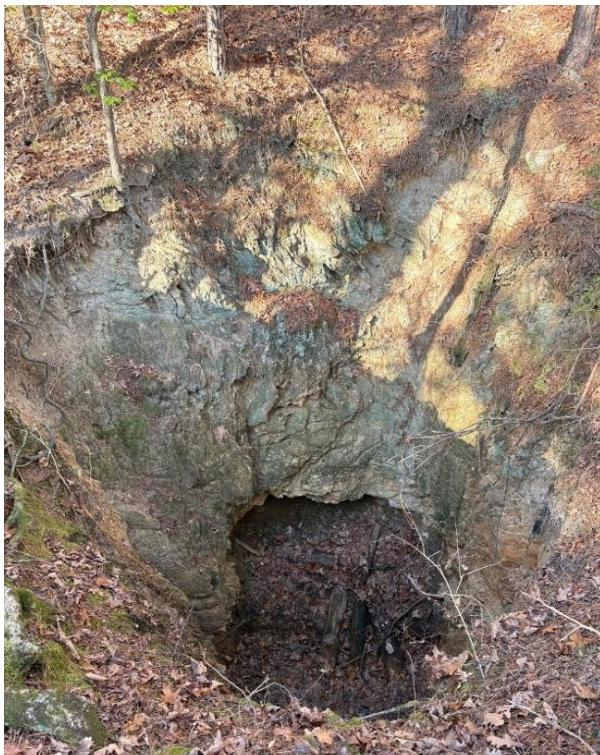

Figure 3 Previously undocumented mines within the Gilham Project area
- Several previously undocumented mines and historical workings were identified, materially enhancing the geological understanding and exploration upside (Figure 3).